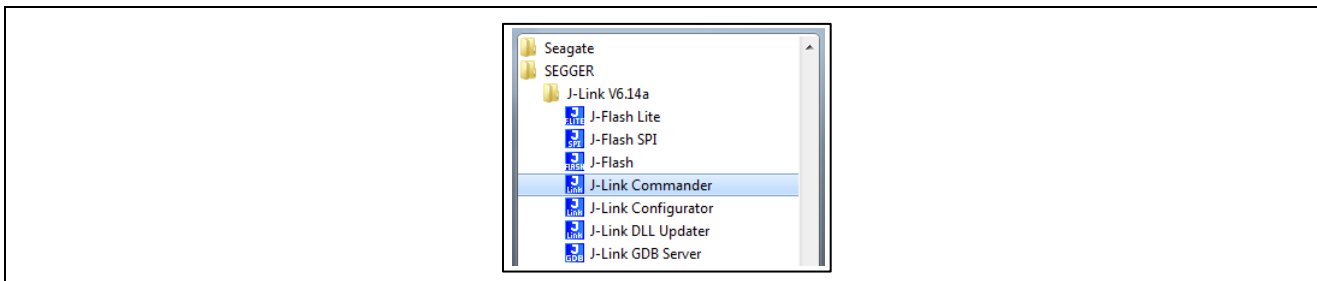

Figure 14 J-Link Commander at SEGGER folder from Start
3. Open the J-Link Commander (see Figure 14) from the **SEGGER** folder, in the **Start** menu for All Programs.